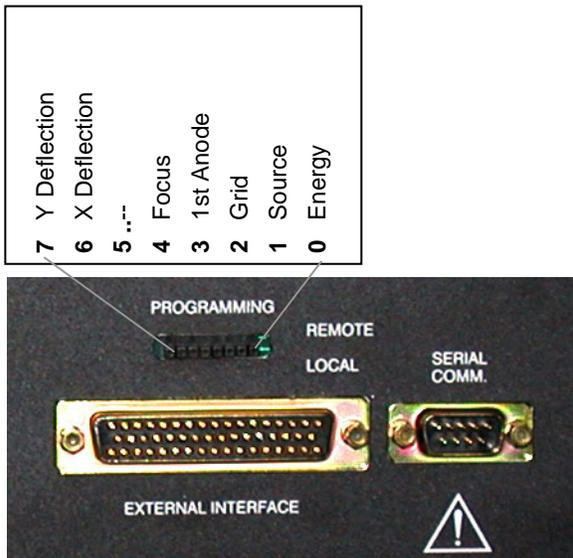

Fig. 4.4-3 Remote / Local switches on the back of the EGPS-1022 (not all 8 switches are used)
5. On the back of the main Power Supply, set the small remote/ local slide switches labeled **PROGRAMMING** to the **REMOTE** position (up) for each supply that is to be remotely controlled. Individual supplies can be run in either local or remote mode. (Fig. 4.4-3)